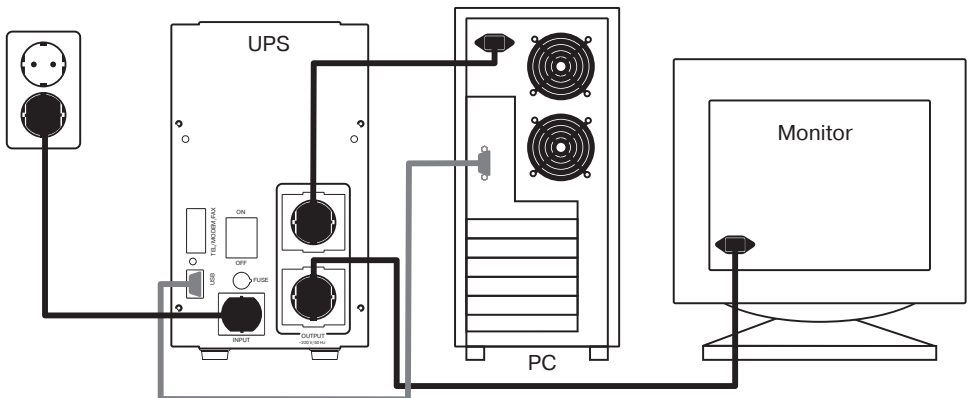

Fig. 3. UPS connection diagram
- Connect the power cable of the computer equipment to one of the UPS output sockets (10), and the monitor power cable – to the other UPS output socket (see connection diagram in Fig. 3). Then connect the supplied power cable to the UPS input socket (9), and put its plug into a mains outlet.
- Connect the USB interface cable to the corresponding socket (11) and to an available PC USB port (connection is optional).